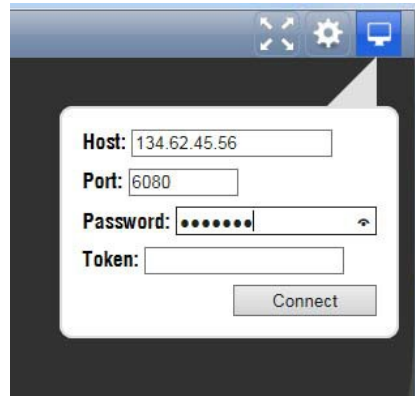

Figure 22: Settings dialog box with the password entered
5. In the Control bar, select the **Connect** icon (🖥️) to open the Connect dialog. (See Figure 22.)